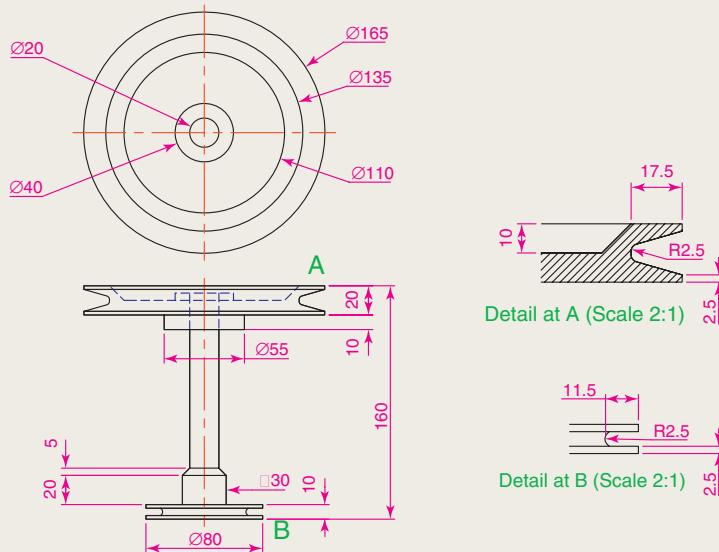

Fig. 12.54 Exercise 8
8. Working to the details given in the orthographic projection Fig. 12.54, construct a 3D model of the assembly. After constructing the pline outline(s) required for the solid(s) of revolution, use the **Revolve** tool to form the 3D solid.